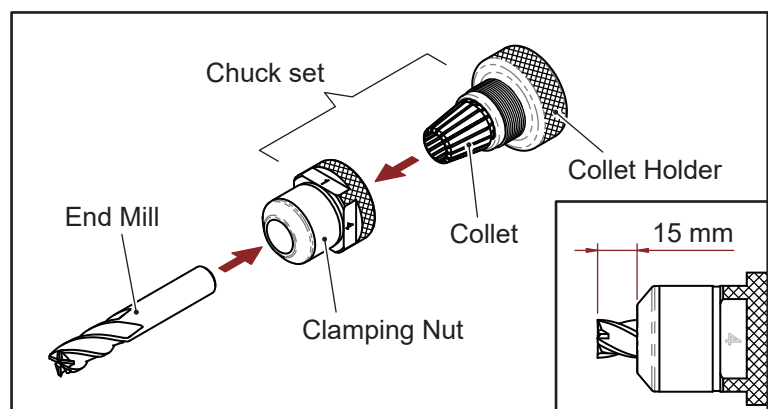

Fig. 7-2
5. Screw in a little bit by clamping nut, then insert end mill shank into the clamping nut until the end mill tip is about 15 mm out of the clamping nut (Fig. 7-2), slightly screw the chuck set to tighten the end mill a little bit.